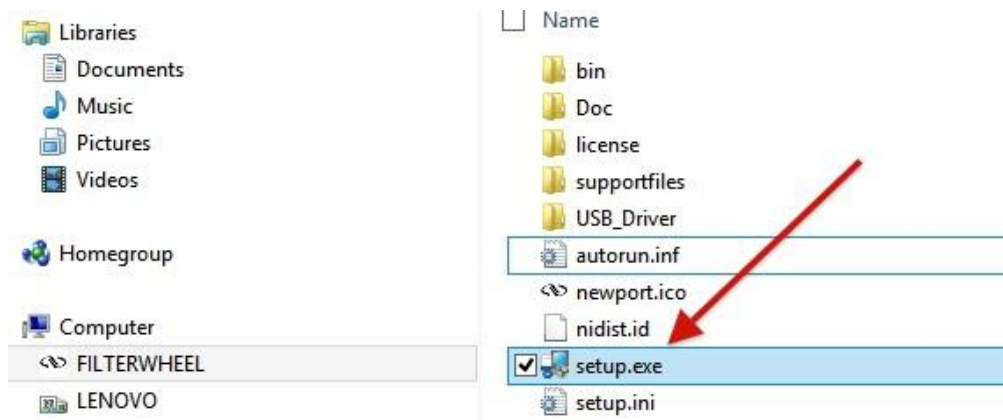

Figure 15: Setup Application
3. Double click the Setup.exe application, shown in Figure 15, application to begin the installation.